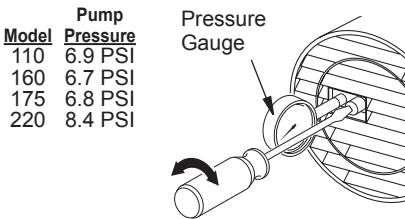

Figure 12 - Adjusting Pump Pressure Using External Gauge
5. Adjust pressure. Turn relief valve to right to increase pressure. Turn relief valve to left to decrease pressure. See specifications with Figure 12 for correct pressure for each model. **DO NOT OVERTIGHTEN ADJUSTMENT SCREW.** Service pump if pressure can not be adjusted to proper setting (see Figure 12).
4. Adjust pressure. Turn relief valve to right to increase pressure. Turn relief valve to left to decrease pressure. See specifications with Figure 12 for correct pressure for each model. **DO NOT OVERTIGHTEN ADJUSTMENT SCREW.** Service pump if pressure can not be adjusted to proper setting (see Figure 12).